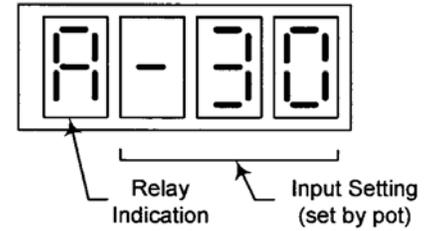

Figure 5. Typical Setpoint Mode Display
- a. Press the calibration push button and hold for 10 seconds. The system will enter setpoint mode and the display will show the current relay setpoint (blinking), as shown in Figure 5.